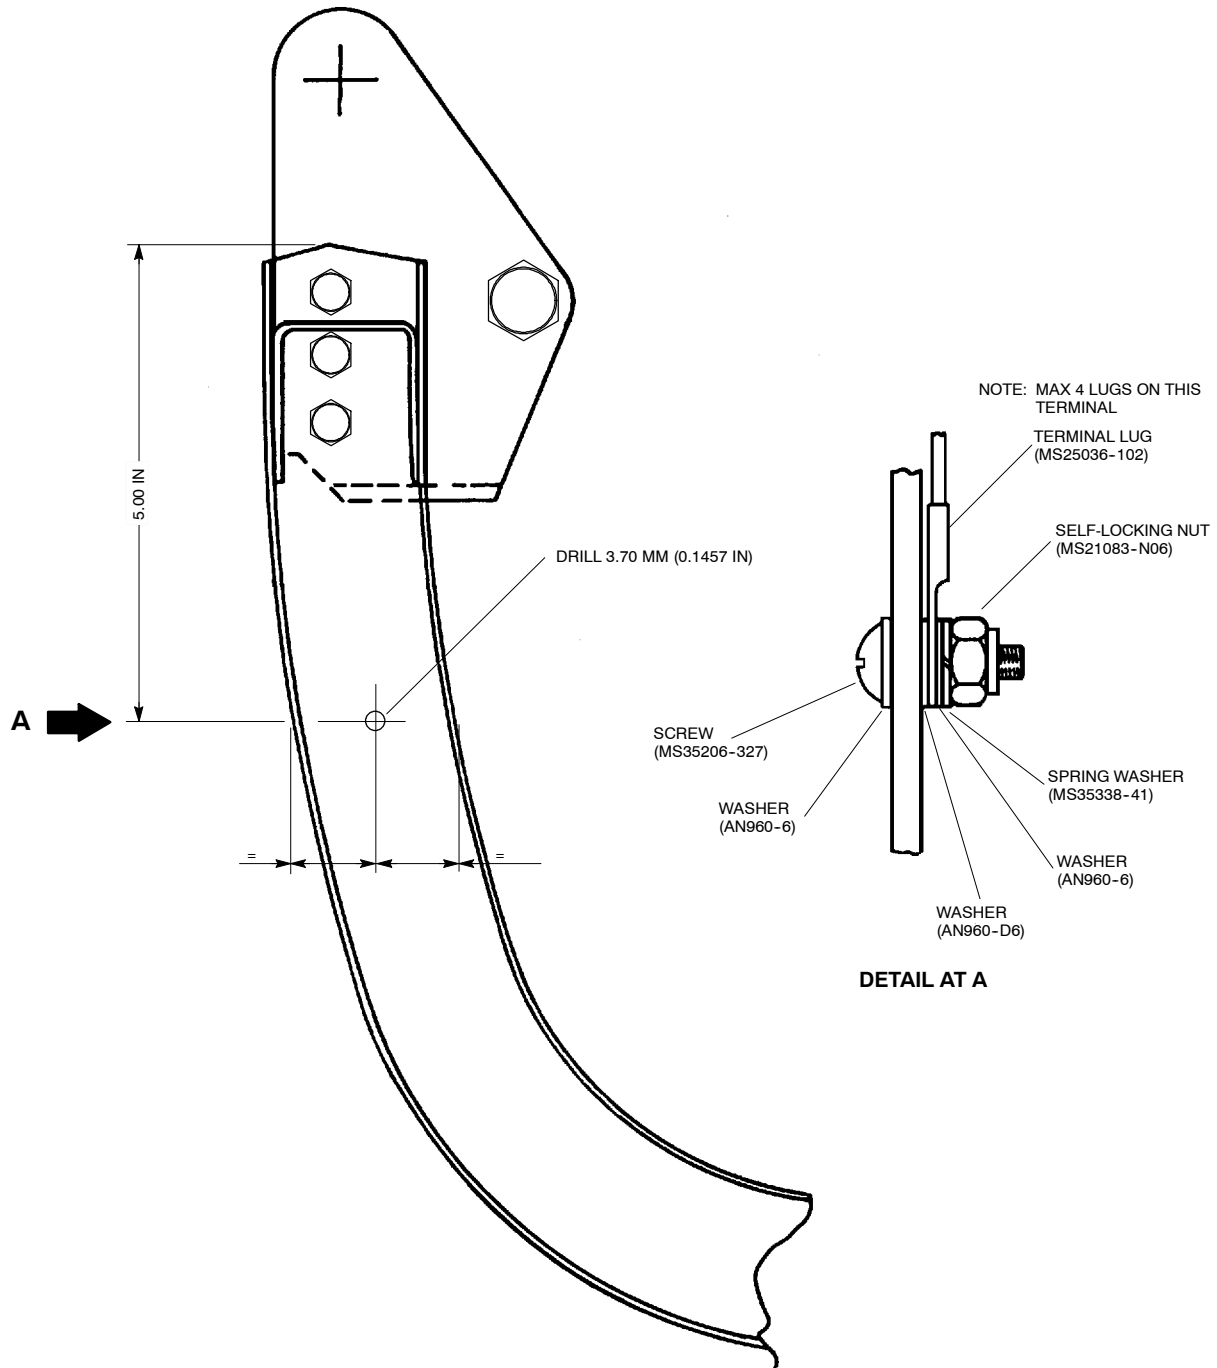

Figure 2 Details of new earth point
- (6) Make up new earth wires with wire MS25038/1-18-9 and lugs MS25036-102 as follows:
- (7) Attach earth wires to relevant terminals in the Fire Detector Switches. Refit Fire Detector Switches as per MM Chap 26-10-00, Para 1.F.
- (8) Drill a 3.70 mm (0.1457 in) hole at the new earth point on the RH side of the lower mounting yoke (Ref Fig 2). Prepare the surface as per MM Chap 20-20-00.
- (9) Run earth wires to the new earth point. Where possible tie earth wires to existing looms. Attach with screw (MS35206-327), plain steel washer (AN960-6), aluminium washer (AN960-D6) placed as per Figure 2, spring washer (MS35338-41) and self-locking nut (MS21083-N06). Refinish the surface as per MM Chap 20-20-00.
- (10) Carry out a functional test of the Fire Detectors as per MM Chap 26-10-00, Para 2.A.
- (11) Refit Upper and Lower Front Fairings (Ref MM Chap 71-10-00).
- (12) Close and secure Upper and Lower Cowls.
- (3) Open connector, locate Pin F and disconnect wire K24A18N (or K38A18N) and disconnect from present earth point.
- (4) Make new earth wire using wire MS25038/1-18-9 and lug MS25036-102 of length 50 in. Label as K24A18N.
- (5) Connect to Pin F in connector, reassemble connector and refit to Torque Oil Pressure Switch.
- (6) Run earth wire to the new earth point (Ref Fig 2). Where possible tie earth wire to existing looms. Connect as per Para 2.A.(9).
- (7) Refit Upper and Lower Front Fairings (Ref MM Chap 71-10-00).
- (8) Close and secure Upper and Lower Cowls (Ref MM Chap 71-10-00).
- (9) Carry out Autofeather function test as per Maintenance Practices of CO G214.